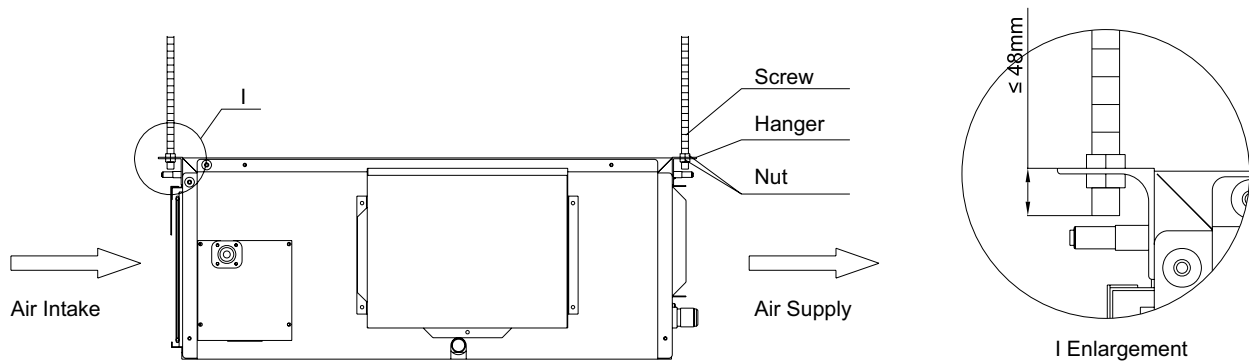

Figure 1-1-5
5. Install the indoor unit at the ceiling as Figure 1-1-5 shows.